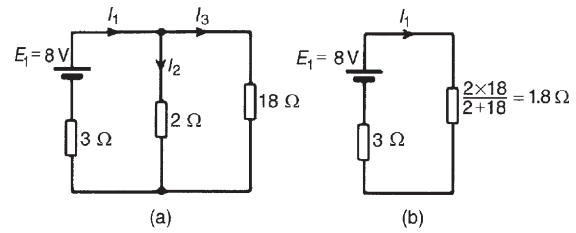
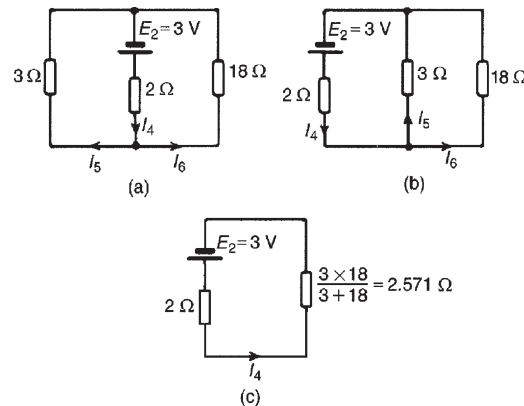
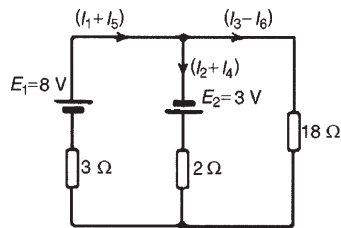

Figure 13.22
Figure 13.23
Figure 13.24
1. Removing source E_2 gives the circuit of Fig. 13.22(a)
2. The current directions are labelled as shown in Fig. 13.22(a), I_1 flowing from the positive terminal of E_1
From Fig. 13.22(b),
From Fig. 13.22(a),
3. Removing source E_1 gives the circuit of Fig. 13.23(a) (which is the same as Fig. 13.23(b))
4. The current directions are labelled as shown in Figs 13.23(a) and 13.23(b), I_4 flowing from the positive terminal of E_2
From Fig. 13.23(c),
From Fig. 13.23(b),
5. Superimposing Fig. 13.23(a) on to Fig. 13.22(a) gives the circuit in Fig. 13.24